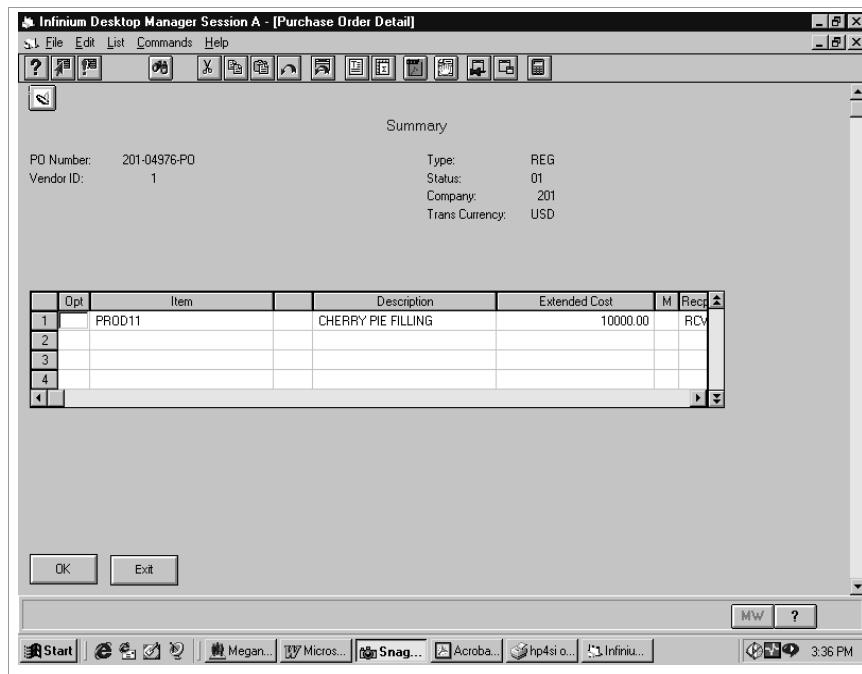
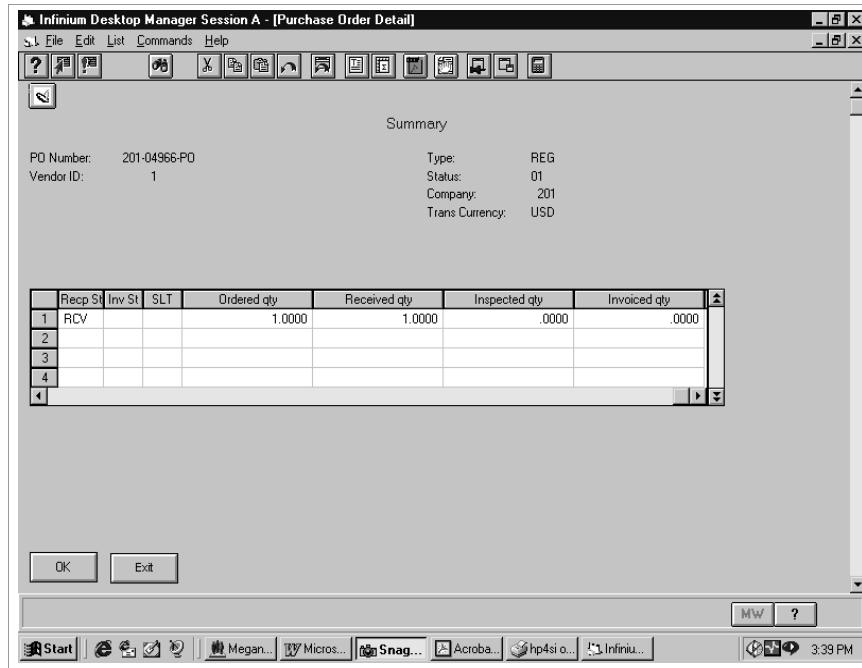
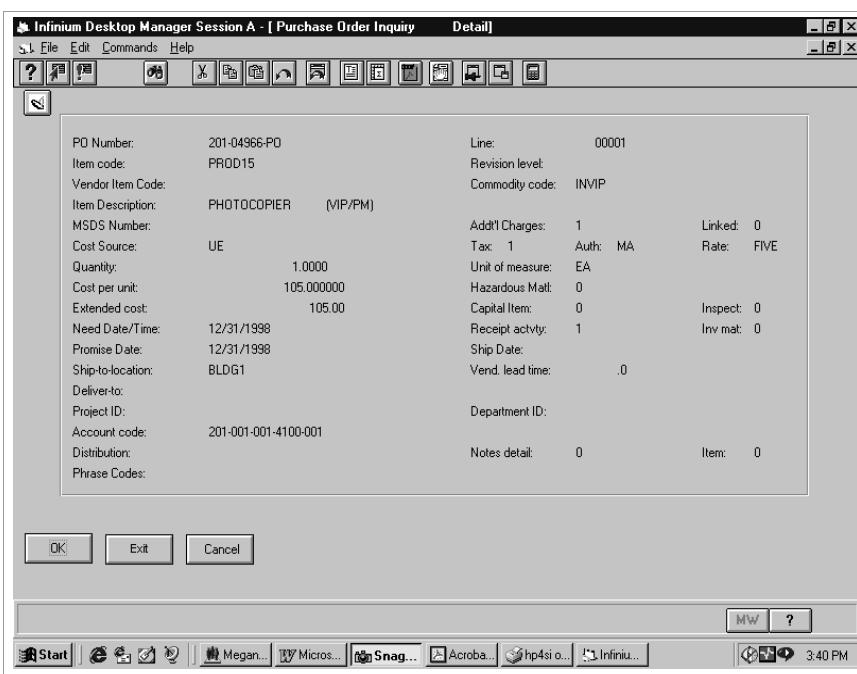

Figure 5-10: Purchase Order Detail Summary screen
Figure 5-11: Purchase Order Detail Summary screen Alternate View
Figure 5-12: Purchase Order Inquiry Detail screen
- 2 Select **Work with** or type **5** and press Enter. The system displays the screen shown in Figure 5-10.
5 You can press F11 at the Purchase Order Detail Summary screen shown in Figure 5-10 to display more information for the selected detail line as shown in Figure 5-11. This is an optional procedure.
- 7 Select an item at the Purchase Order Detail Summary screen shown in Figure 5-10 to display detailed information about that item. Select **Display** or type **8** and press Enter. The system displays the screen shown in Figure 5-12.
- 8 When done, exit or cancel to return to the Purchase Order Detail Summary screen shown in Figure 5-10.
- 1 To select at the multi-ship level, select a detail line item at the Purchase Order Detail Summary screen shown in Figure 5-10. Select **Work with** or type **5** and press Enter. This option is valid only for line items that display an **M** in the *M* (multi-ship) column.
- 3 Press Enter. The system saves your selections and returns you to the Purchase Order Detail Summary screen shown in Figure 5-10. The system updates the *SLT* column with **DTL** when you select a multi-shipment item at the Multi-Shipment Selection screen.